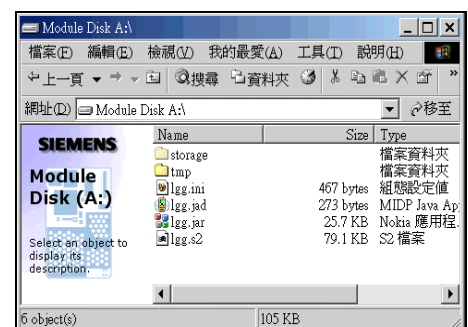

Figure 7
8. Open the module icon, you can see many system files(Figure 7). Copy lgg.ini to your local disk;